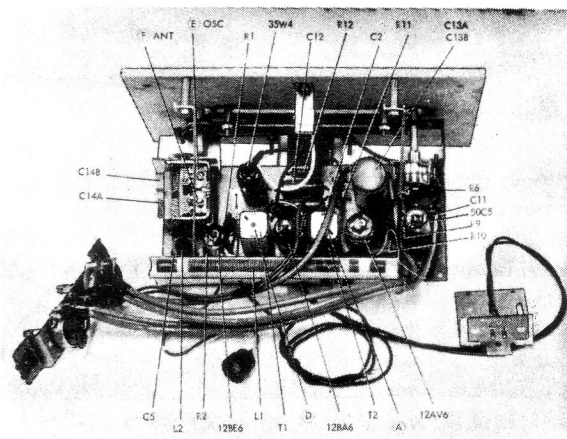

Figure 2. Top View of Chassis. Location of components and alignment points shown.
- Use an isolation transformer if available; otherwise, connect a .1 mfd. capacitor in series with low side of signal generator and connect to common ground (see figure 2).
*Adjustments "B" and "C" made from underside of chassis; see figure 2.